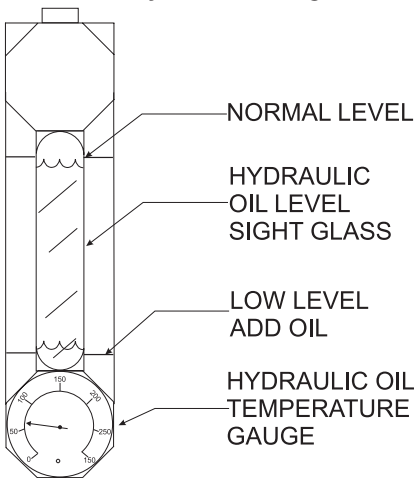

Figure 14. Hydraulic Oil Sight Glass
13. Determine if the hydraulic oil level is low by observing the level of the oil in the **Hydraulic Oil Sight Glass** (Figure 14).